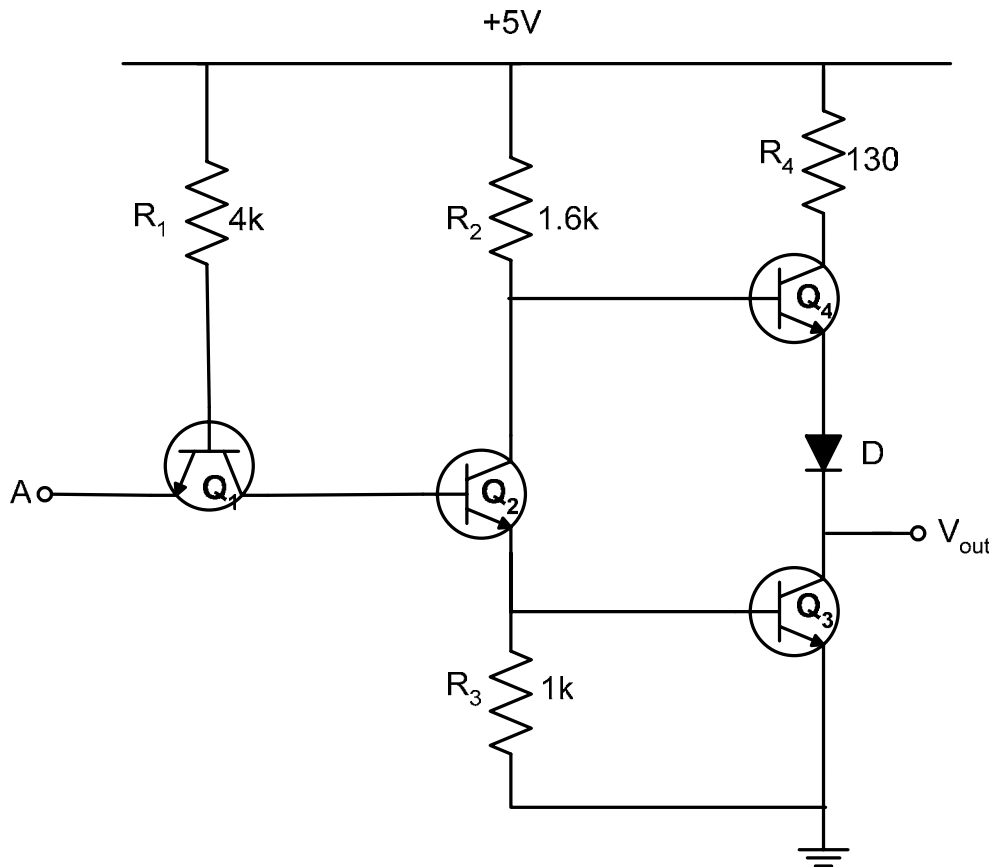

Figure 2 TTL Inverter
Figure 2, shows the complete TTL gate circuit. It consists of three stages: the first transistor  $Q_1$ , operating in the **inverse active mode**—that is, in the active mode but with the roles of emitter and collector interchanged. The driver stage  $Q_2$ , whose function is to generate the two complementary voltage signals required to drive the totem-pole circuit, which is the third (output) stage of the gate. The totem-pole circuit in the TTL gate has two additional components: the 130 $\Omega$ , resistance in the collector circuit of  $Q_4$  and the diode D in the emitter circuit of  $Q_4$ . The reason of including the 130 $\Omega$  resistance is simply to limit the current that flows through  $Q_4$ , especially in the event that the output terminal is accidentally short circuited to ground. This resistance also limits the supply current in another circumstances, namely, when  $Q_4$  turns on while  $Q_3$  is still in saturation.
From the transfer characteristics curve Figure 1, (refer also Figure 2) we can determine the critical points and the noise margin as follows  $V_{OH} = 3.7V$ ;  $V_{IL}$  is somewhere in the range of  $0.5 V$  to  $1.2 V$ , and thus a conservative estimate would be  $0.5 V$ ;  $V_{OL} = 0.1 V$ ;  $V_{IH} = 1.4 V$ ;  $NM_H = V_{OH} - V_{IH} = 2.3 V$ ; and  $NM_L = V_{IL} - V_{OL} = 0.4 V$ . It should be noted that these values are computed assuming that the gate is not loaded and without taking into account power supply or temperature variations
Implement the circuit of a standard TTL inverter (shown in Figure 2) into a PSPICE circuit file or a Schematics file. The input signal to the inverter is a continuous symmetric square pulse of maximum amplitude of 5V and minimum amplitude of 0V. The period of the pulse is 500 $\mu$ s. (Note: to define such an input use the *PULSE* source definition; refer to PSPICE handout. For Schematics users, the source *VPULSE* can be used. In this case make sure to change the source attributes to match the given specifications). Use transistor type *Q2N2222* for all transistors and diode type *D1N4148*. Record all your results in the table given.
1. Connect the circuit shown in Figure 2. Apply a triangular wave of 10V peak-to-peak to terminal A. Its frequency should be 1 kHz.